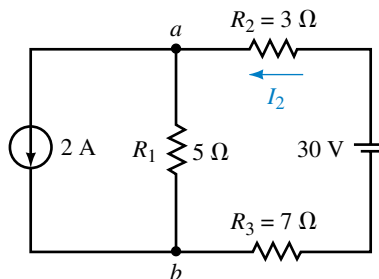

FIGURE 8–73
12. Find V_{ab} and I_2 for the network of Figure 8–73.